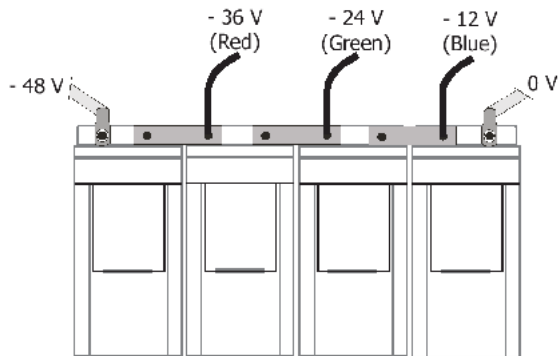

Figure 4-12 4-Block Symmetry Measurement (for illustration only)
- 4. For 4-block measurement fix the 3 wires (red, green and blue) of the symmetry cable to individual cable lugs. Colour coding of the cables must be respected for proper symmetry measurement see Figure 4-12.